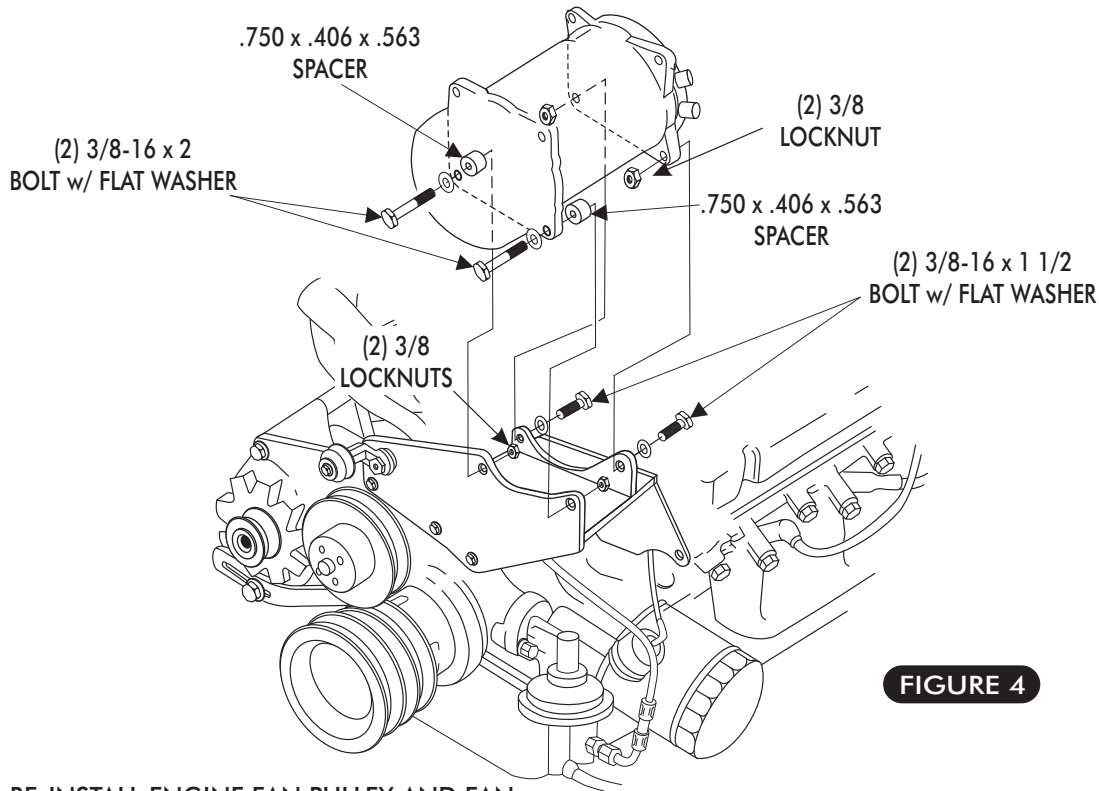

FIGURE 4
- 7. ATTACH THE COMPRESSOR TO MOUNTING BRACKET; USING (2) 3/8-16 x 2 BOLTS w/ FLAT WASHER AND, .563 SPACERS, AND 3/8 LOCKNUT TO FRONT UPRIGHT OF COMPRESSOR MOUNTING BRACKET. USING (2) 3/8-16 x 1 1/2 BOLTS w/ FLAT WASHER, AND 3/8 LOCKNUT TO ATTACH THE REAR OF THE COMPRESSOR TO REAR UPRIGHT OF COMPRESSOR MOUNTING BRACKET. **SEE FIGURE 4 BELOW**